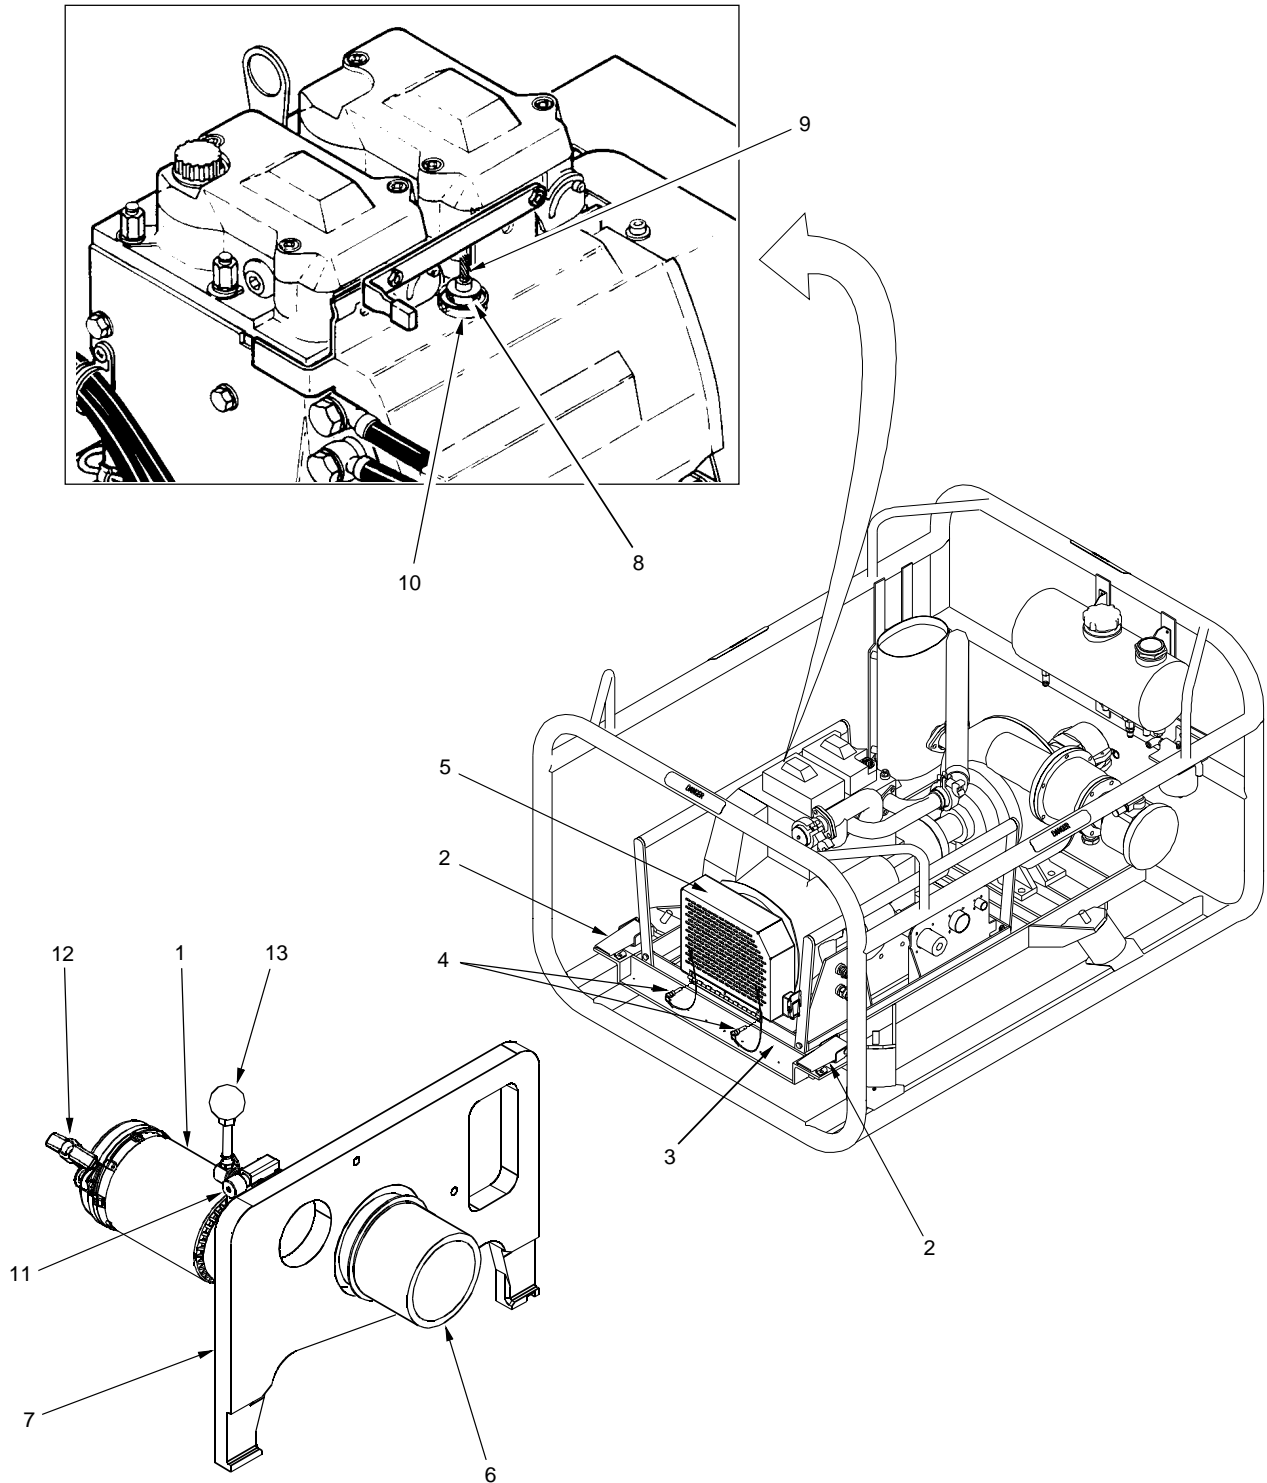

Figure 6. Manual Engine Start
6. Perform manual engine start. (Refer to figure 6.)
- a. Remove manual starter (1) from container.
- f. Disengage both engine-to-frame latches (2) and lower the latching engine module clamp (3).
- g. At front of pump-engine module, remove two quick disconnect pins (4) attaching coupling guard (5) to pump-engine module. Unlatch and remove the coupling guard (5).
- h. Install flexible coupling (6) on manual starter (1), align flexible coupling (6) with adapter on engine, insert legs of manual starter bracket (7) in pump-engine module frame, adjust position of manual starter (1) as required to engage the flexible coupling (6) on the manual starter (1) with the adapter on the engine, and raise and latch the engine module clamp (3) to hold the manual starter (1) in position.
- i. Grasp start control knob (8) and lift start control (9). Tighten the lower knob (10).
- j. Press the reset button (11) on the manual starter (1).